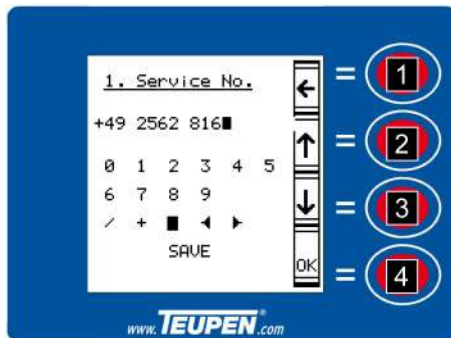

Fig. 71: Service telephone number input
1. ➤ Using the [function keys] (Fig. 71/2 and 3) select the desired digit or special symbol.
2. ➤ Using the [function key] (Fig. 71/4) confirm the selection.